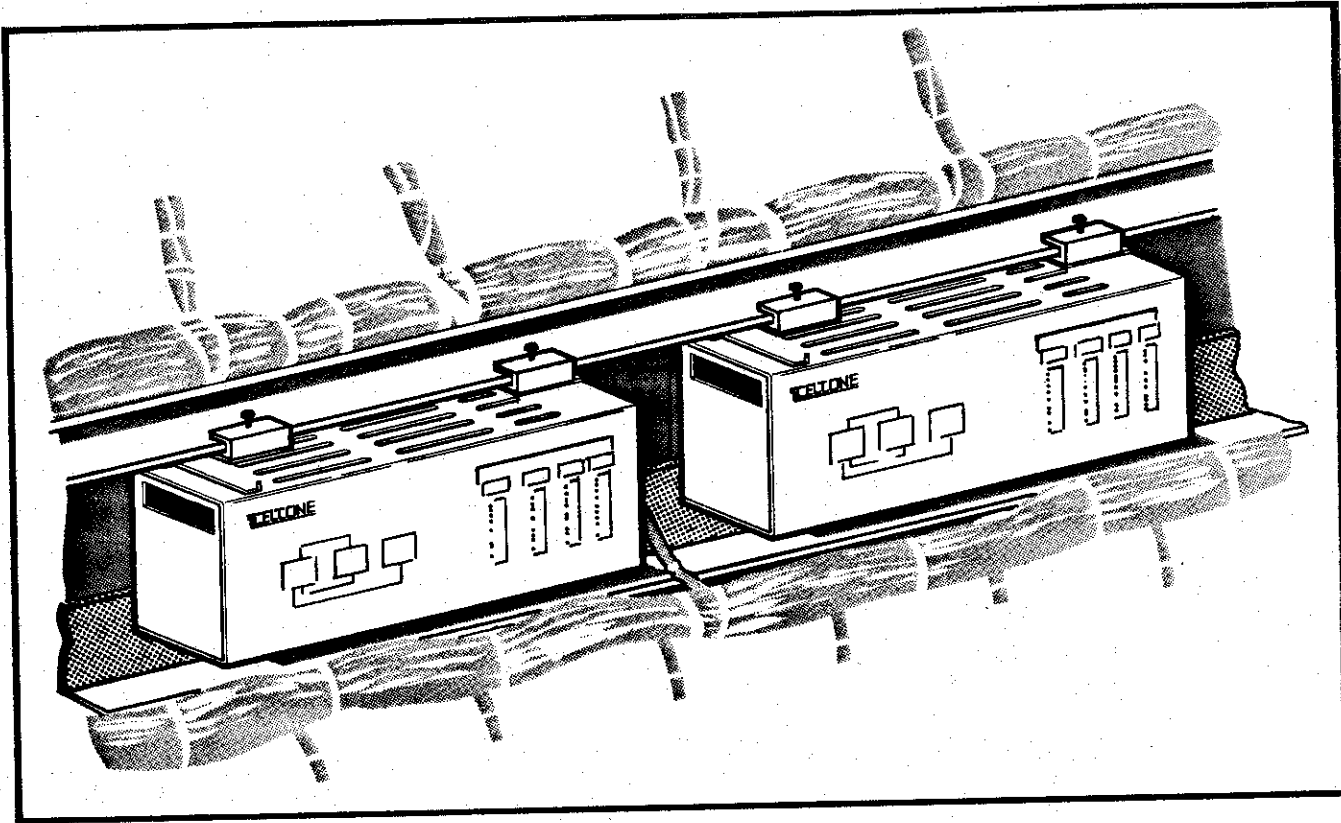

Figure 8 CF-168-31 Card Files Mounted Behind a Linefinder Bank
**6.07** In the most common application, the CF-168-31 card file is mounted just above the linefinder cable trough (see Figure 8), but the units can be hung on almost any horizontal bar. The card file is secured to the bar by tightening the clamp screw at the top with a wrench such as a W.E. #417 relay tool or a screwdriver.